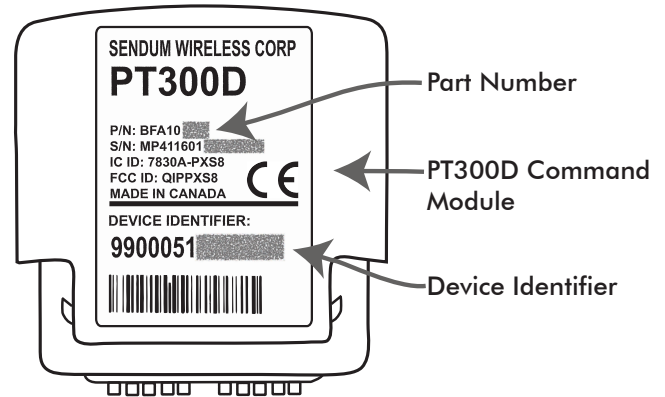

Figure 2 - Locating the PT300D Device ID
*The Device Identifier is device-specific serial number found on the back of the PT300D Command Module (see "Figure 2 - Locating the PT300D Device ID"). This identifier is also known as ESN, MEID, or IMEI.*